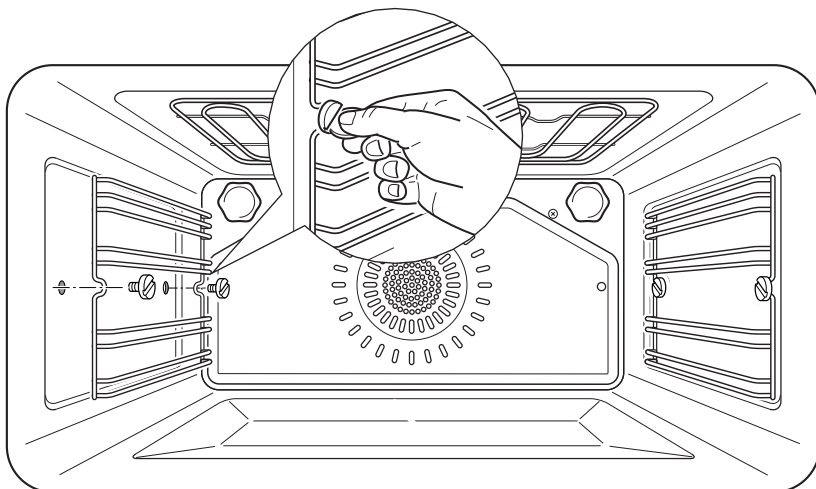

Fig. 7.6
- Assemble the wire racks to the oven walls using the 2 screws (Fig. 7.6).